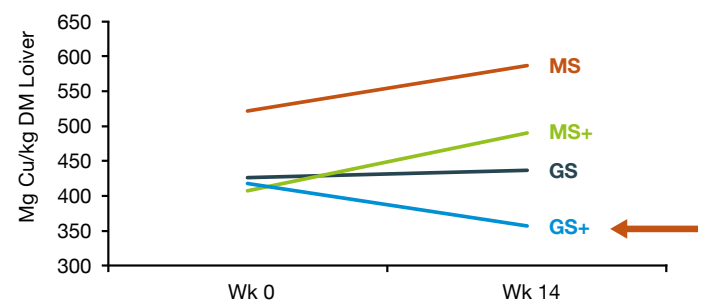

Figure 37. Effect of diets on liver Cu concentrations at Week 0 and 14
- High levels of antagonists reduced the liver Cu only in cows fed GS+ (Figure 37)